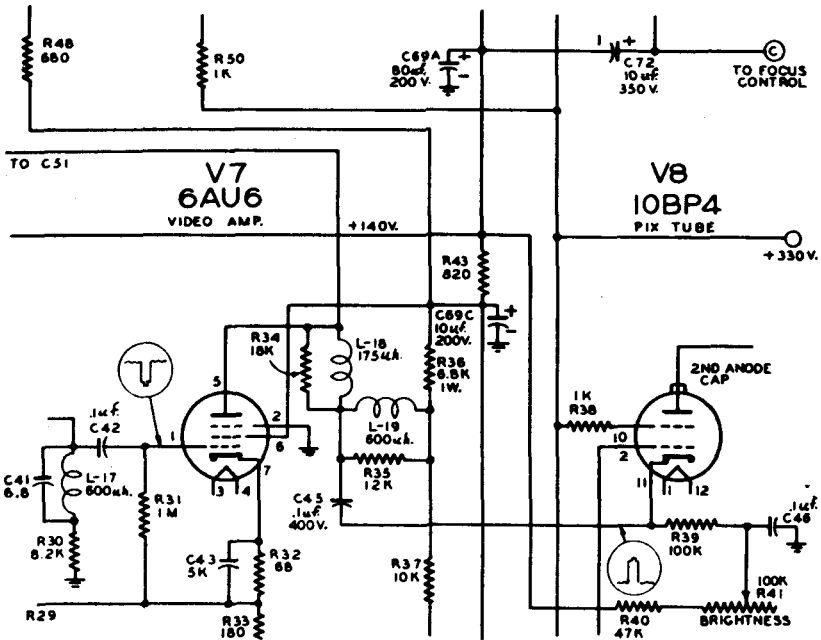

Fig. 1 — Sparton
**Reducing hum in final audio stage (see Fig. 1).**